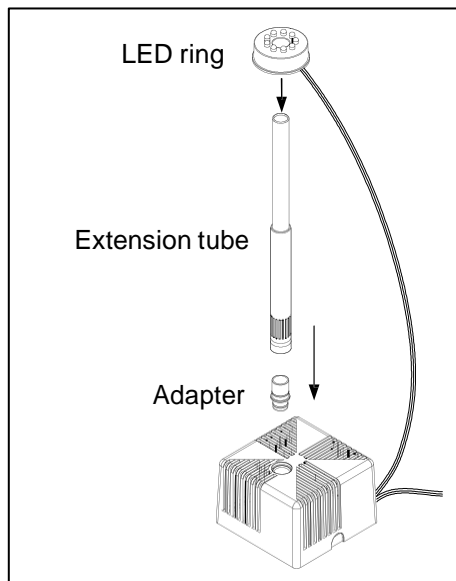

**Fig. 5**
5. Put soil around between tank and fiber planter, then place plants in. Fig. 5